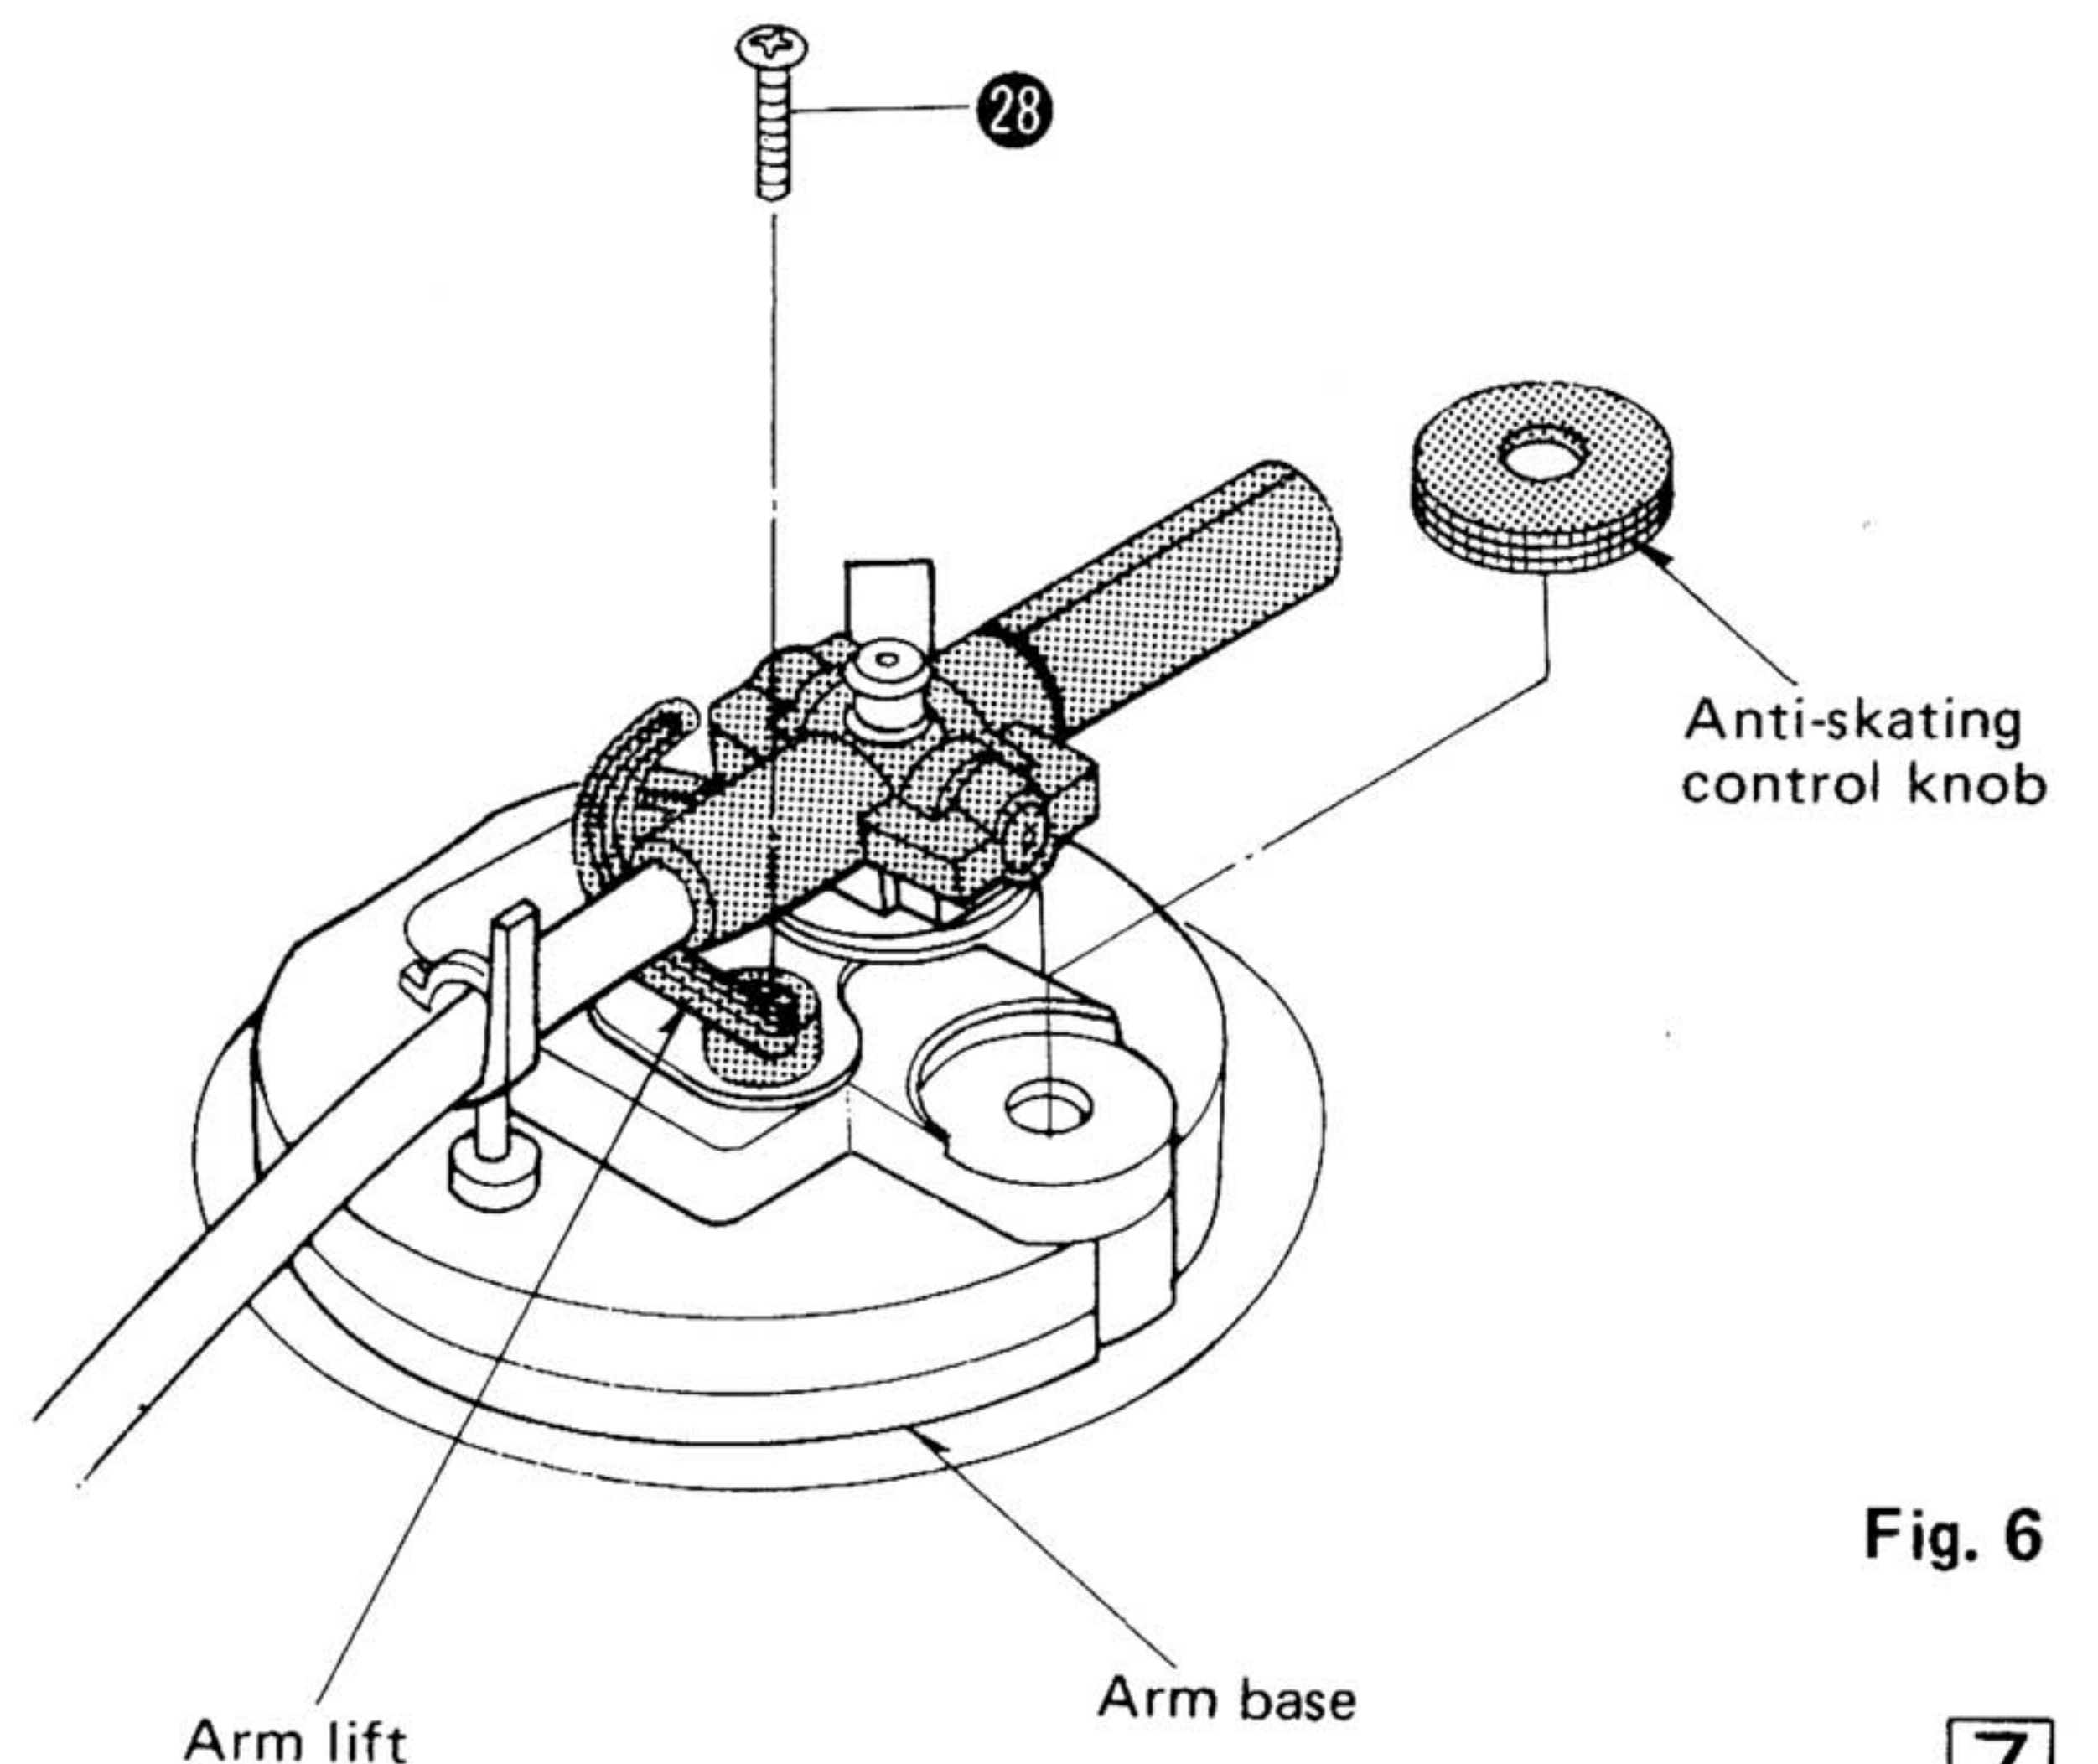

Fig. 6
5. To disassemble the lift substrate, disengage the arm lift fixing screw ㉘ before turning over the body, then remove the arm lift. (See Fig. 6)
6. Remove the anti-skating control knob. (See Fig. 6)